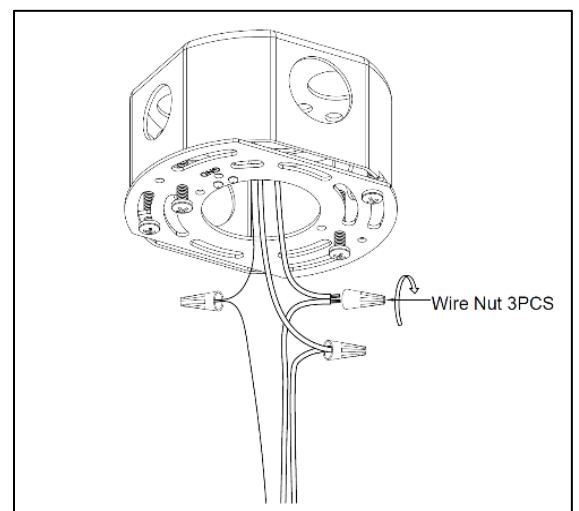

Figure 9
3. With the power turned off, hold the fixture housing assembly (2) firmly and connect the copper ground wire from the fixture to the bare copper wire from the junction box using a wire nut (5) (if housing wiring does not include a ground wire, consult your local electrical code for approved grounding method.) (See Figure 9)
4. Use wire nuts (5) to connect the black fixture wire to the black power supply wire and white fixture wire to the white power supply wire. (See Figure 9).